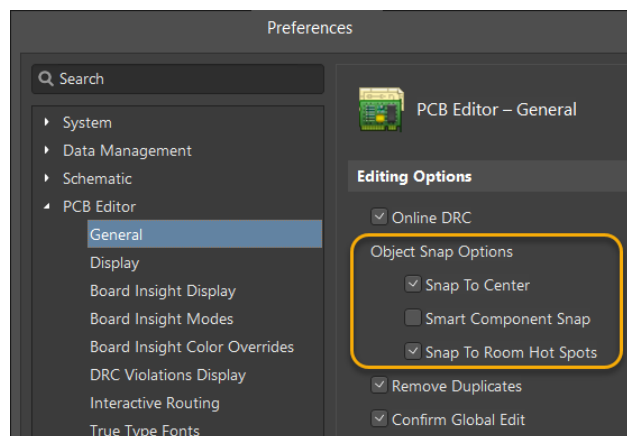

Figure 18. PCB Preferences
- b) Under the **Object Snap Options** section, enable **Snap To Center**, as shown in Figure 18.